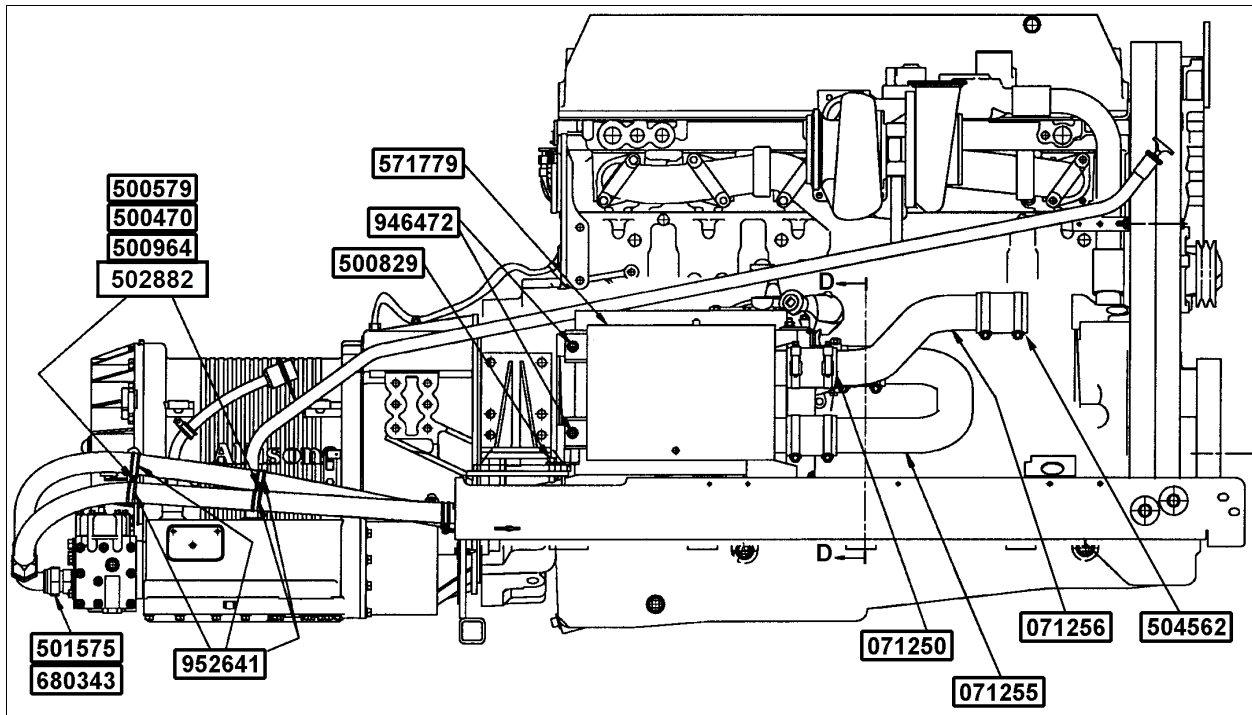

FIGURE 1
6. Install various parts as indicated in figures1 to 5.